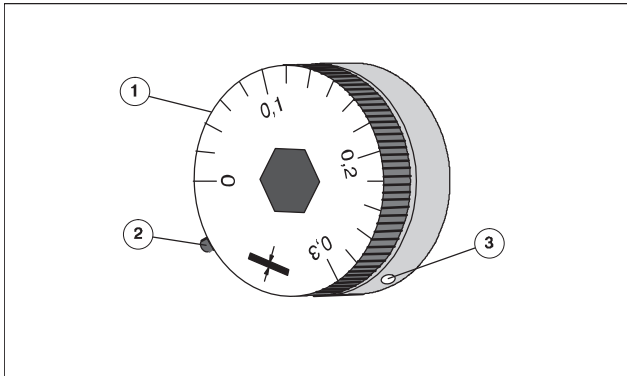

Fig. 50 Printing pressure adjustment screw
The printing pressure adjustment screw (Fig. 50/1) is preset in the factory so that there is a green dot on the stop at the 0.3 mm value (Fig. 50/3) .
1. Slacken the grub screw (Fig. 50/2) at the stop.